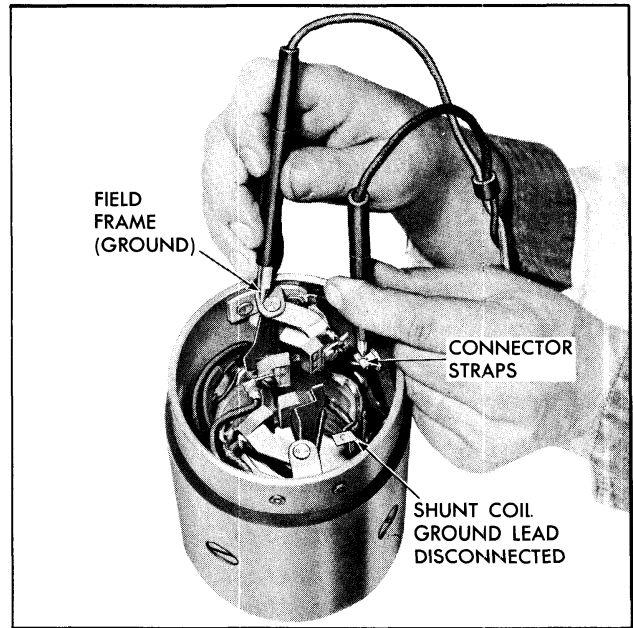

Fig. 11-9 Testing Field Coils for Ground
2. Using a 110-volt test lamp, place one lead on the connector strap and the other on the field frame (Fig. 11-9). Disconnect the shunt coil or coils ground before this check is made. If the lamp lights, the field coils are grounded and the defective coils will require repair or replacement.